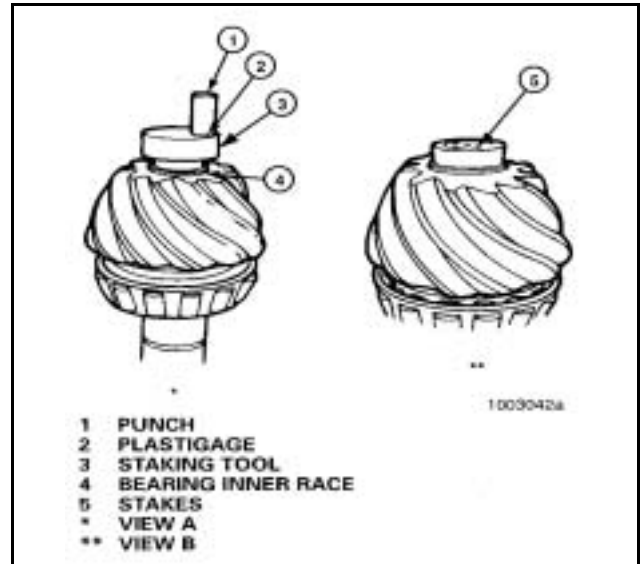

Figure 61
- f. Place the staking tool over the bearing race. Cut a one inch piece from the green plastigage strip and place in between the punch and the staking tool. **Figure 61 – View A.**
- g. Strike the punch with a two-three pound brass hammer to upset the end of the pinion stem. Then, remove the strip and measure its thickness against the gauge on the wrapper that the strip came in. The strip must not be less than 0.003 inch thick. This thickness indicates that you are using enough force when you hit the punch. If the strip is too thin, then you must hit the punch harder so the stake will hold the race in place. Rotate the tool and repeat this procedure until there are six evenly spaced stake marks around the stem. **Figure 61 – View B.**